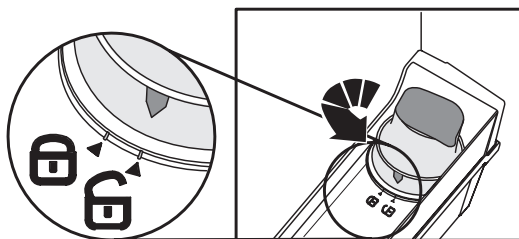

Fig 3
- Unlock the whole filter turning it anticlockwise (Fig 3)
(You can follow the procedure described in Carbon filter activation and Filter installation - Fig. 3, 4, 5, 6, 7, 8).